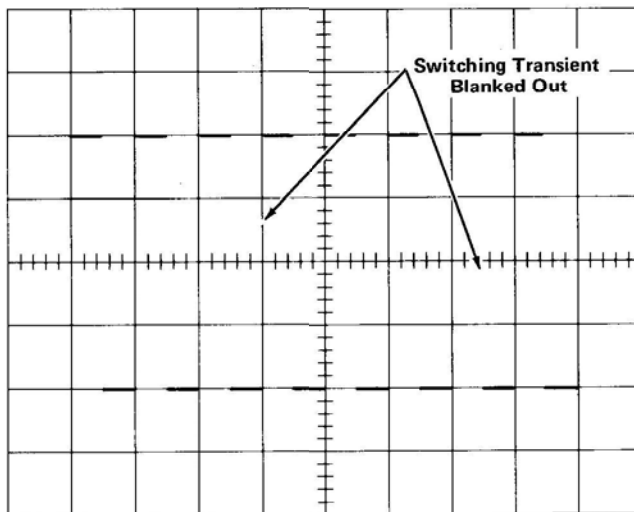

Fig. 5-1. Typical CRT display when checking chopped blanking.
e. CHECK—CRT display for complete blanking of switching transients between chopped segments (see Fig. 5-1).